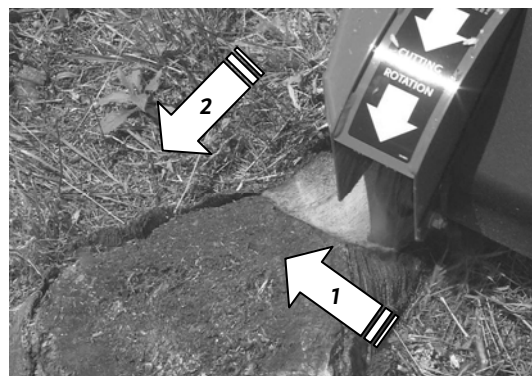

Figure 15
7. Swing the Cutter Head over to the right side (**Figure 15** arrow #1), advance the machine forward (arrow #2) by releasing and resetting the brake. The machine should only be advanced far enough to engage the Cutter Head into the stump so that when swept across the stump it will remove 1/2" to 1" of stump with each sweep.